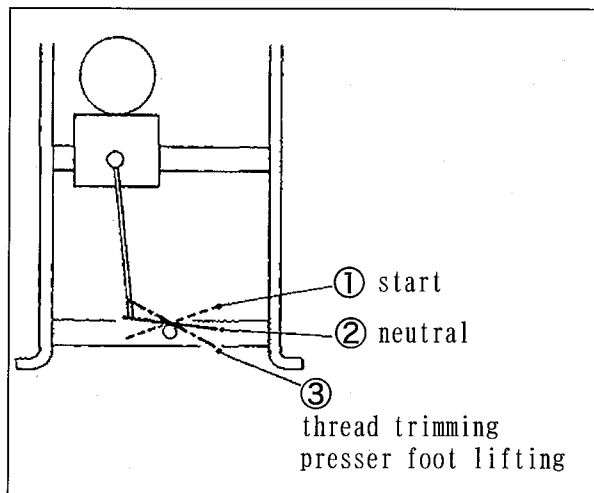

Fig. 17
- (1) Heel back the pedal to raise the presser foot.
(Fig. 17 ③)
- (2) Place a fabric under the presser foot and toe down the pedal. (Fig. 17 ①)
- (3) Release the pedal. (Fig. 17 ②)
- (4) Heel back the pedal. (Fig. 17 ③)
- (5) Release the pedal. (Fig. 17 ②)